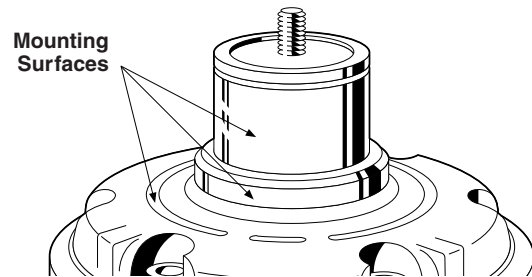

Figure 1
- B. Check mounting surfaces for nicks, burrs and scratches (See Figure1). Smooth with a file or emery cloth, if necessary.